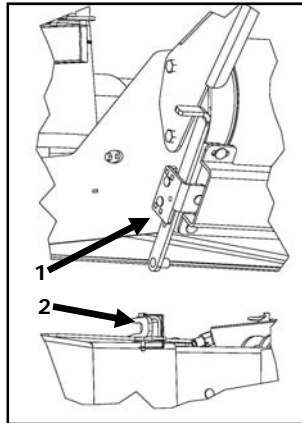
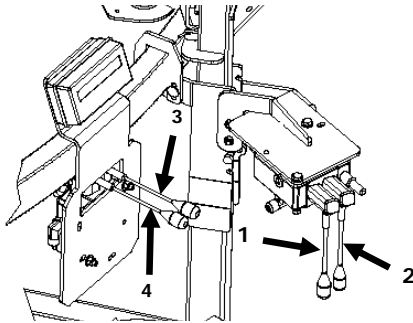

Figure 2.1 Lock of the turntable
Figure 5.2 580 Levers
Attach the turntable's (Figure 2.1) L-shaped lock (1). Rotate the table as needed so that the latch faces the notch (2) at the front of the frame. Remove the latch pin. Slide the latch toward the notch and insert the latch shaft. Place the pin in the hole of the notch.
At start-up, your bale wrapper must be placed in the most horizontal position possible. Detach the turntable's L-shaped latch (Figure 2.1). If you have the stabilizer option, start the machine and pull the 2 levers of the control to put them in place (Figure 5.2). If the film roll is in place, check if the edge of the plastic is properly held by the clamp of the film cutter. If not, you can attach the plastic directly onto the bale ties.
Your machine can be moved short and medium distances behind a tractor. Fasten the turntable latch (Figure 2.1). Attach the machine and attach a security chain to the ring provided for this purpose on the draw bar. On public roads, follow the traffic regulations of your region for agricultural machines, including those concerning the use of agricultural machines by minors.
Once the table's latch has been removed, use the levers to lower the rear (1) and front (2) stabilizers (Figure 5.2) if applicable. Depending on the hardness of the ground, it is possible that after a dozen bales you will have to manually readjust the stabilizers to solidify your machine or keep it properly horizontal.